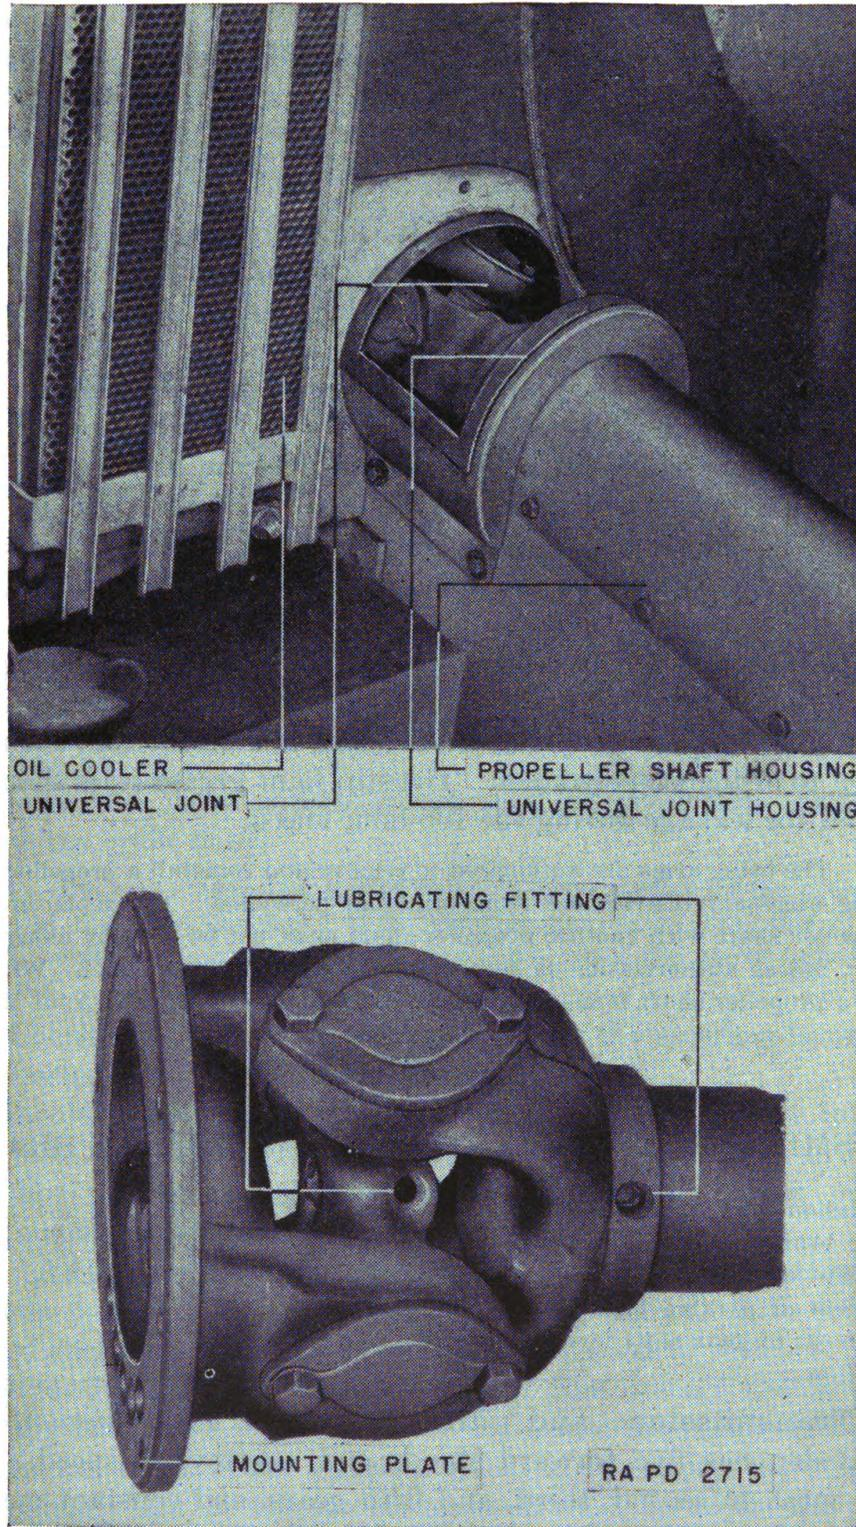

FIGURE 42.—Propeller shaft and universal joint.
82. General.—The propeller shaft (fig. 42) transmits power from the clutch to the transmission and the rest of the power train. It is equipped with universal joints at either end to permit operating at an angle with the transmission and clutch. It is inclosed in a housing or “tunnel” in the center of the floor of the crew compartment.